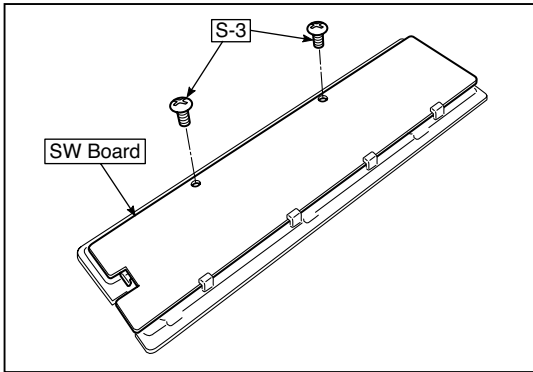

Fig.15
3.Remove the “S-3” screws shown in the figure 15 and then remove the SW Board.